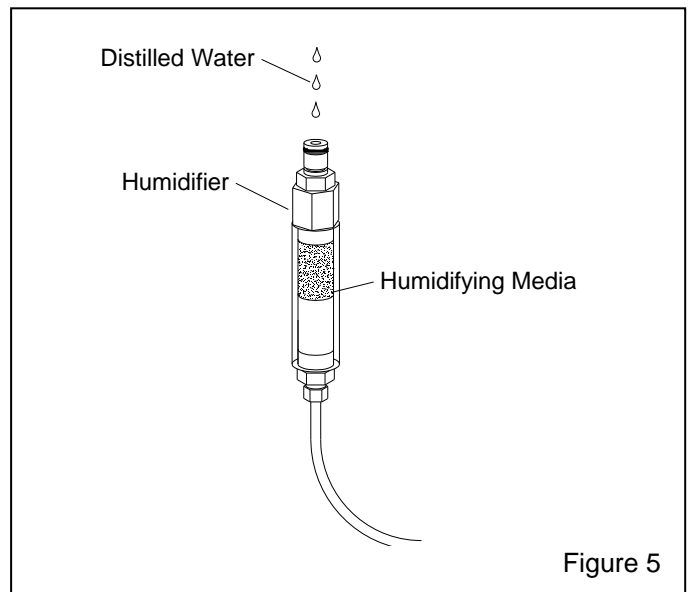

Figure 5
4.4.1 Before connecting the calibration connector to the test gas, dampen the humidifier media with distilled water as follows: Ref. Figure 5.
4.4.3 Turn the humidifier upside down, and moisten the sponge by putting a few drops of distilled water into the connector, as shown in Figure 5.